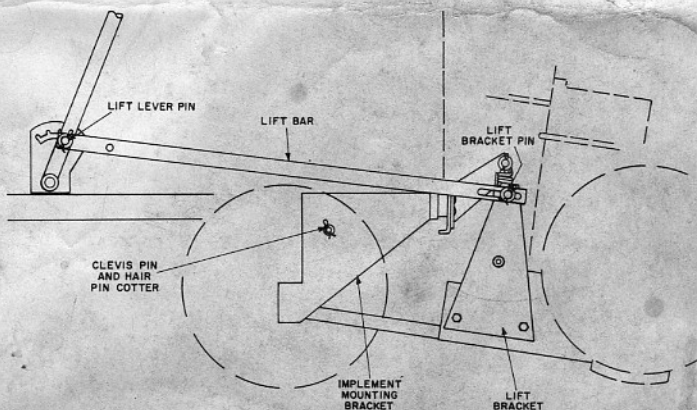

Figure 2
4. Attach slotted end of lift bar to pin on the snow thrower lift bracket. Secure bar to bracket with washer and hair pin cotter. See Figure 2.